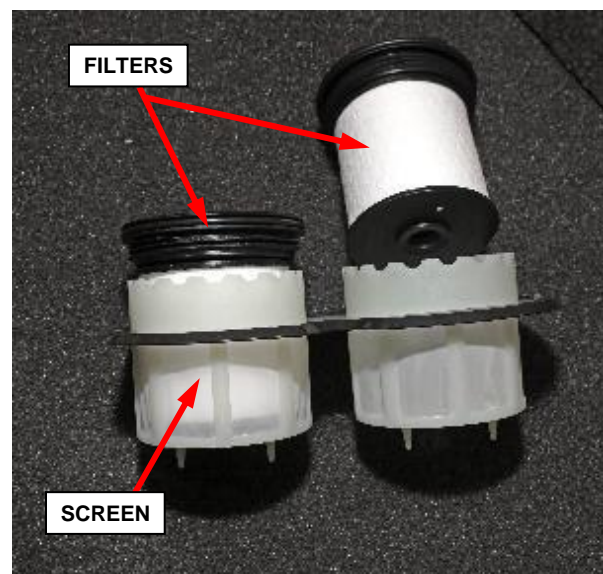

Figure 73 - New Fuel Filter Kit
**NOTE:** The **NEW** Fuel Filter Kit contains two filter elements, a cover O-ring (not shown) and a filter screen (Figure 73).